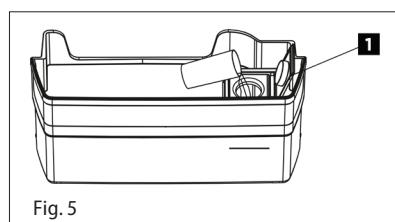

Fig. 5
- Open the water tank cover (1). Slowly fill the tank with clean drinking water up to the line marked "2L". Close the tank cover to prevent water leakage. (Fig. 5)